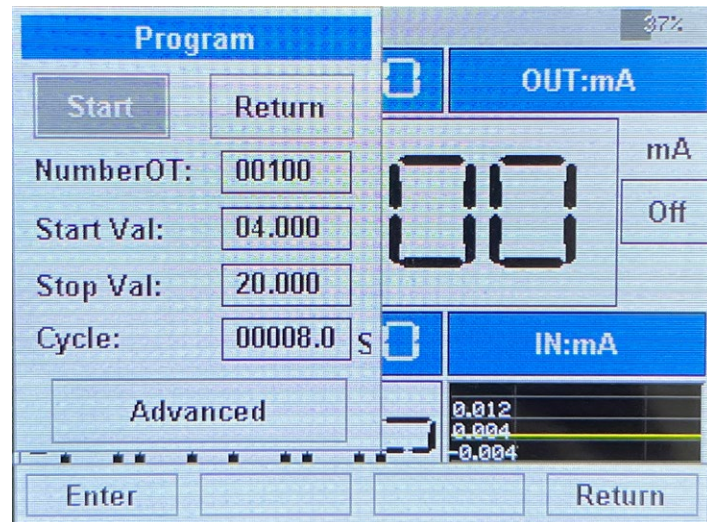

Figure 40 - Automatic output configuration screen
- **[Cycle]**: Default mode. In this mode, the SLC100+ will use the cycle time set on the previous screen (see Figure 40) to define the increments and dwell times.
After setting the parameters for automatic output mode, we can start the generation by selecting the **[Start]** button on the main configuration screen (shown in Figure 40). After selecting **[Start]**, the SLC100+ will return to the measurement and generation screen, but with additional information related to automatic generation mode, as shown in the figure below: